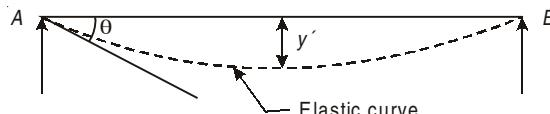

Fig. 4.1
- (iii) Maximum deflection occurs at the point where slope is zero (Fig. 4.1.)